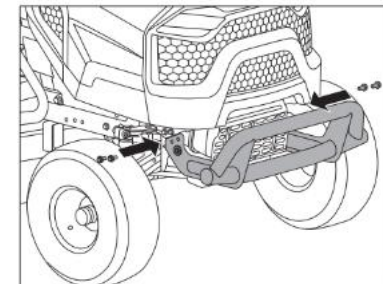

Fig. 6
1. Align the front bumper with the mounting holes at the lower front of the tractor (Fig. 6)
2. Locate guide pin and ensure guide hole on bumper is placed correctly (Fig. 6)
3. Using the provided bolts secure into place and tighten (Fig. 6)